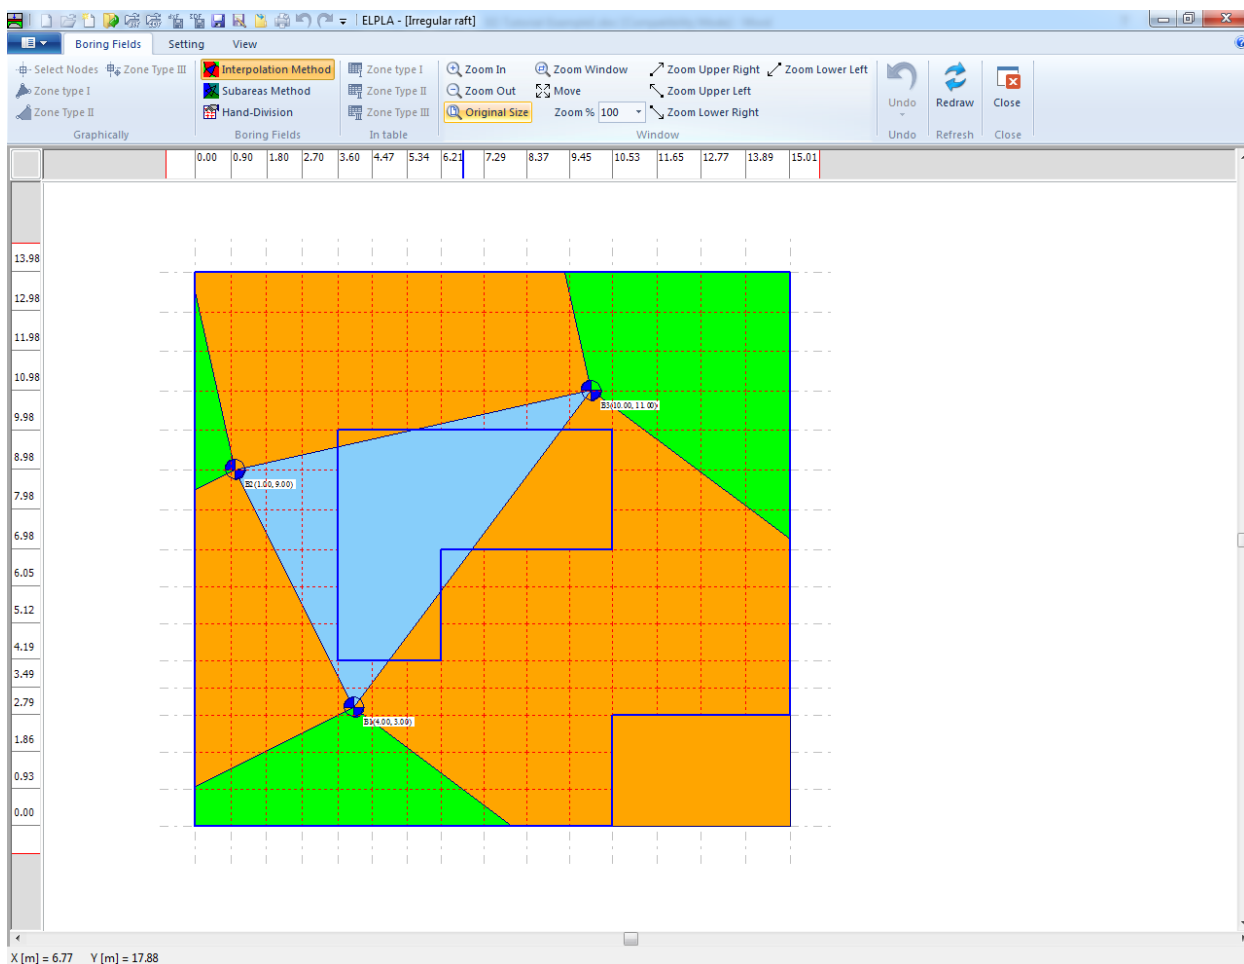

Figure 1.26 "Boring Fields" Window
To consider the Interpolation Method in the analysis, choose "Boring Fields" command from "Data" Tab. The following Tab in Figure 1.26 appears with a default method. *ELPLA* considers that the Interpolation Method is the default one, which takes into account the irregularity of the subsoil. In most cases *ELPLA* defines the interpolation zone types I, II, III automatically such as in this example. However, in the case of extreme boring arrangements, the user must define these zones.
- Choose "Save" command from "File" menu in Figure 1.26 to save the data of boring fields
- Choose "Close" command from "File" menu in Figure 1.26 to close the "Boring Fields" Tab and return to *ELPLA* main window.